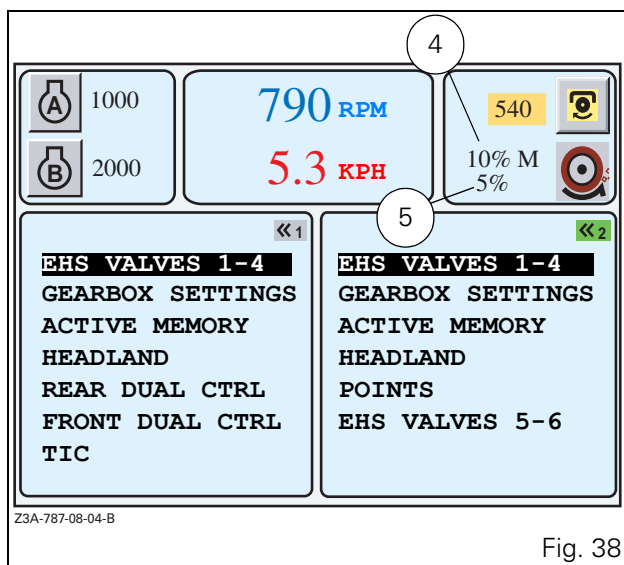

Fig. 38
This application is used to display various parameters stored for tractor use. A certain number of parameters are fixed (Fig. 38, upper part of the screen) while others can be selected by the user (right- and left-hand windows on screen).
- Rotate the encoder (1) to the **WORK** application and press the encoder once the active function is highlighted by red text and a red rectangle around the icon (on b/w screens the elements are highlighted in reverse video). Or press the key <<₁ (2). The window (Fig. 38) is displayed.
- To exit an application, press the **ESC** key (3).
7.9.2 - Description (Fig. 38)